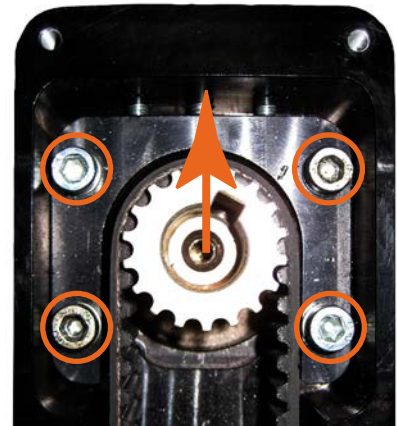

Figure 9
- ◆ The screws (Figure 9 Pos.7) must be inserted (but not tightened), so that the drive unit can be lifted.